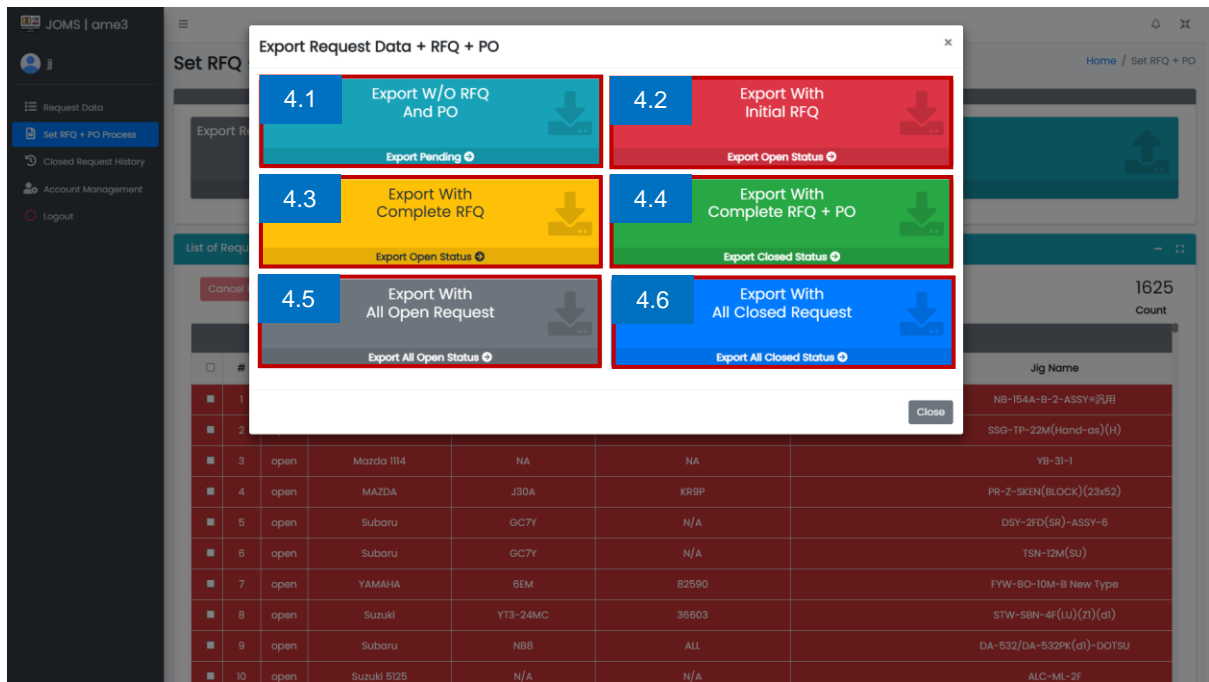

Figure 15. Export Request Data + RFQ + PO
- 4.1 Click Export Pending to export the request data. (See Figure 15)
- 4.2 Click Export Open Status to export with initial RFQ data. (See Figure 15)
- 4.3 Click Export Open Status to export with complete RFQ data. (See Figure 15)
- 4.4 Click Export Close Status to export with complete RFQ and PO data. (See Figure 15)
- 4.5 Click Export All Open Status to export all open request. (See Figure 15)
- 4.6 Click Export All Closed Status to export all closed request. (See Figure 15)